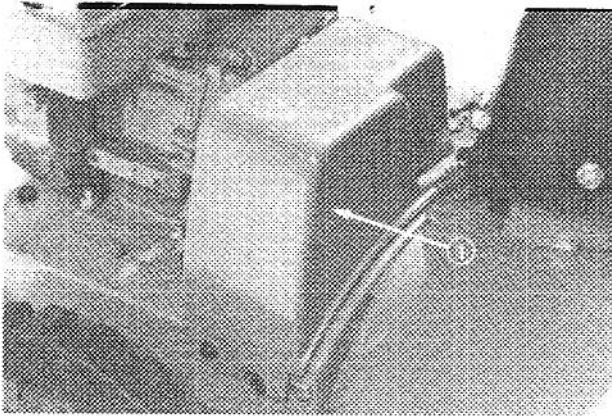

Figure 28
2. Remove two thread forming screws holding belt cover in place, and set belt cover aside (Fig. 28).
2. Remove two thread forming screws holding belt cover in place, and set belt cover aside. (Fig. 28).